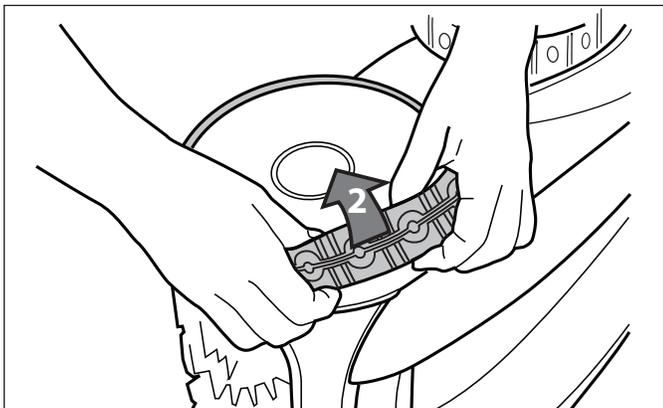

Figure 36. Remove the Old Tire
- Remove the old tire as shown in Figure 36.